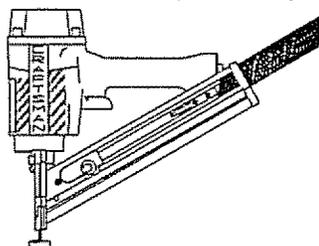

Figure 2a - Loading
1. Insert nails into rear of magazine with heads of nails in top of slot (see Figure 2a below).